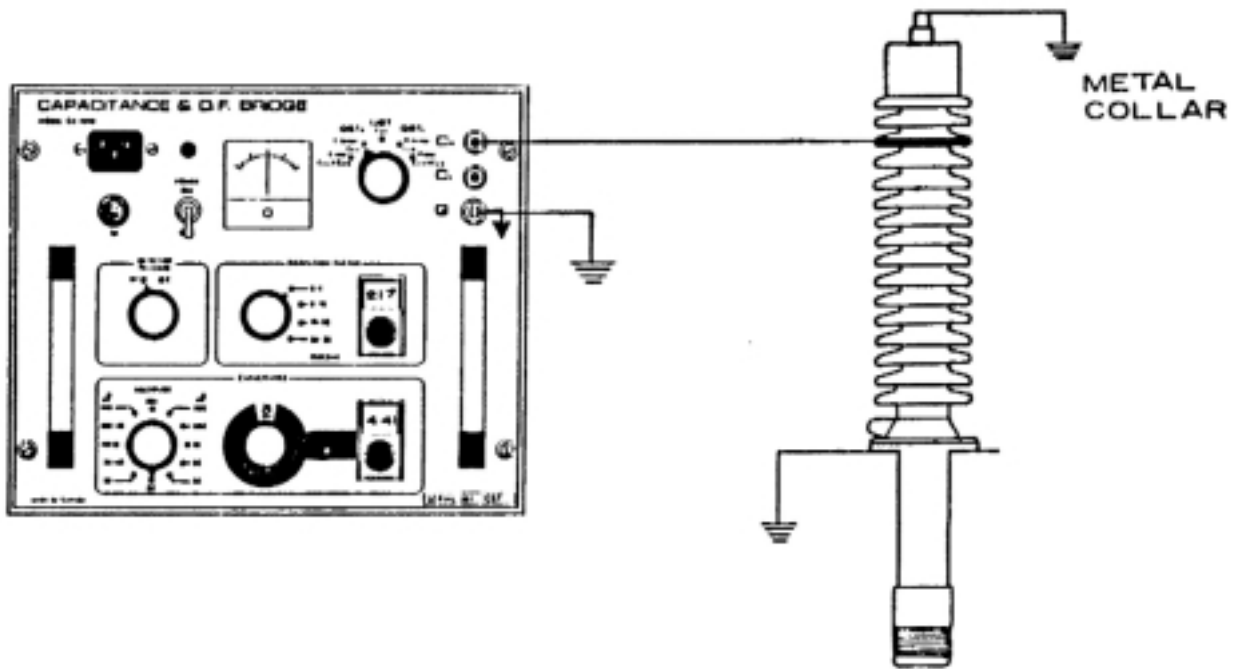

FIGURE 22
2. Connect the CH coax leads (red) to the "D" ring of the metal collar (see Figure 22).